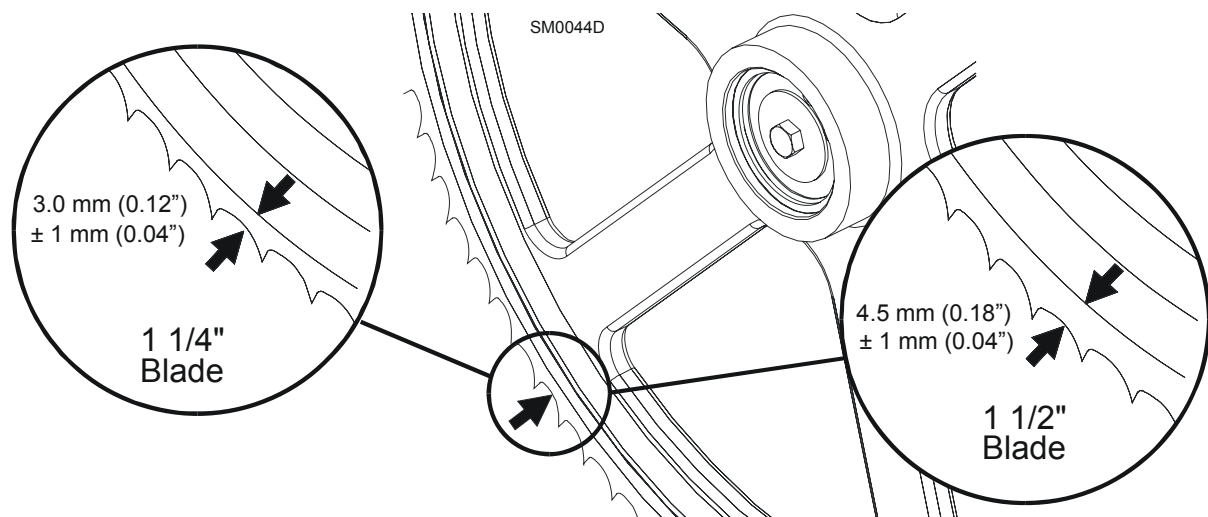

FIG. 3-6
**See Figure 3-6.** Position 1 1/4" wide blades so the gullet is 1/8" (3.0 mm) out from the edge of the blade wheel ( $\pm 1/16$  [1.5 mm]). Position 1 1/2" blades so the gullet is 3/16" (4.5 mm) out from the edge of the blade wheel ( $\pm 1/16$  [1.5 mm]).